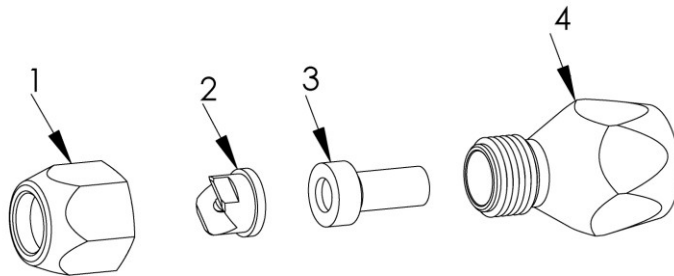

FIG1.
4. With the gun safety Trigger lock, unscrew the tip guard (1) and install the tip (2) and filter assembly (3) in the tip guard nut. Screw the assembly firmly onto the gun. Tighten with a wrench. See Fig. 1.
3. Turn the spray tip so the groove is horizontal for a horizontal spray pattern and vertical for a vertical pattern. See Fig. 1.
3. Remove the tip (2) and the filter (3). See Fig. 1.